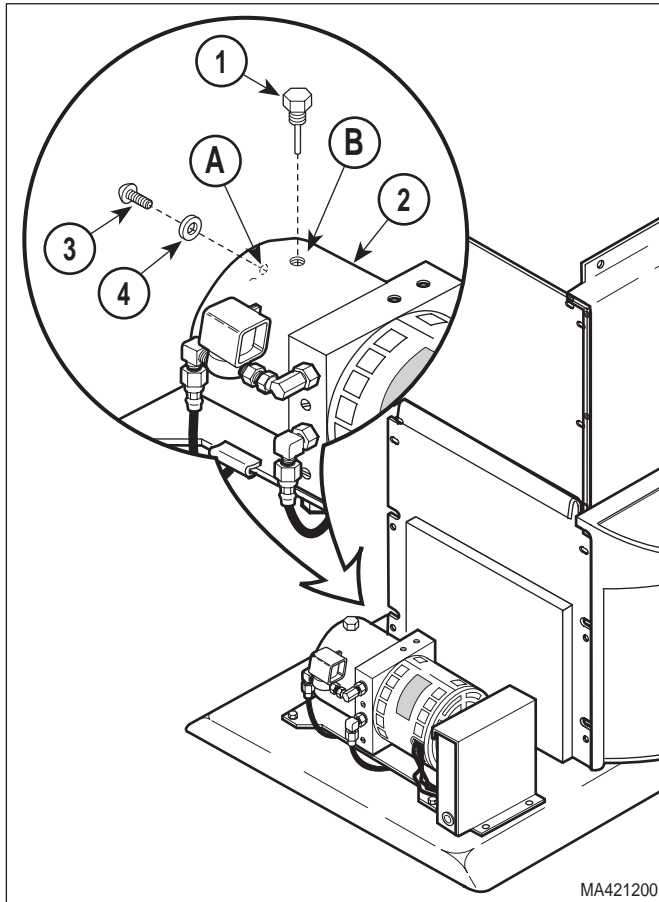

Figure 4-2. Checking / Adding Oil To Motor Pump
- (1) Move the TABLE DOWN, BACK DOWN, and TILT DOWN functions all the way down.
- (2) Remove motor cover assembly (Refer to para 4.2).
- (3) Remove filler cap (1, Figure 4-2) from motor pump (2).